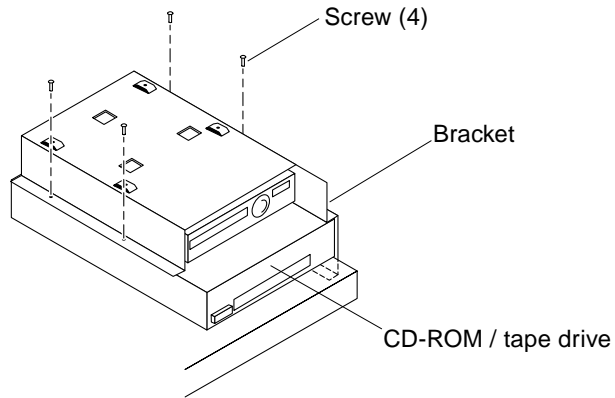

FIGURE 2-10 Positioning the CD-ROM Drive
9. Use a Phillips screwdriver to remove the four screws securing the CD-ROM drive to the drive bracket (FIGURE 2-10).